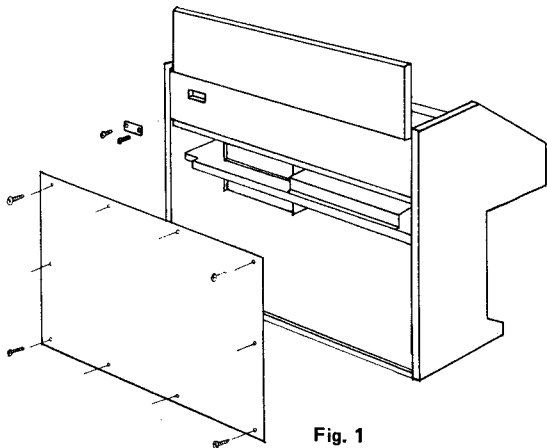

Fig. 1
2. Remove the metal plate used to cover the opening on the back of the Electone provided for this accessory (2 screws). Retain these screws as they will be used in step #8 (see figure 1).
3. Remove top board retaining screws and open the top board. FS-500 FS-300 FS-200 and FS-100 have three (3) screws, two in front & one in back.